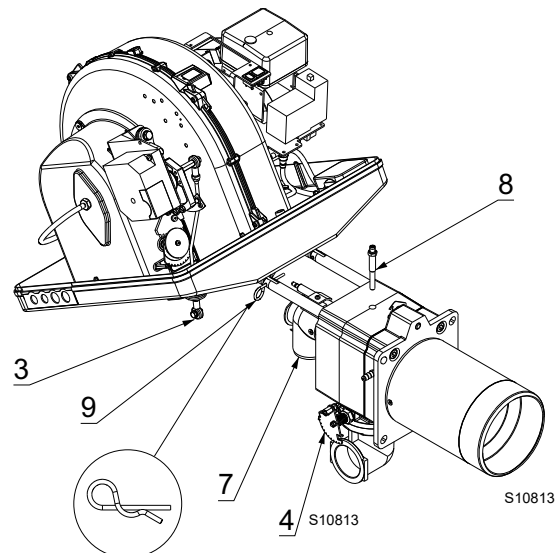

Fig. 35
- Remove the split pin 9)(Fig. 35) and push the burner until it is approx. 100 mm from the pipe coupling.
- Replace the screws 5) and split pin 9)(Fig. 35) and carefully pull the probe and electrode cables outwards until they are slightly taut.
- Re-couple the articulated coupling 3) to the graduated sector 4)(Fig. 35).